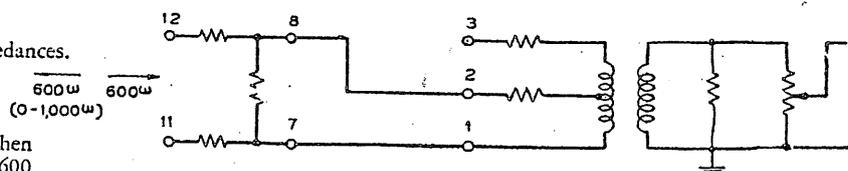

Figure 22 — Input arrangements for 124E Monitor Amplifier.
- Source Impedance:** Line input 600 ohms nominal. See input arrangements, Figure 22.
- Maximum Gain:** Depends on the input strapping used. See Figure 22.
- Maximum Input Level:** Depends on input strapping used. See Figure 22. Levels given are as read on volume indicator calibrated for 600 ohm load, connected across input terminals.